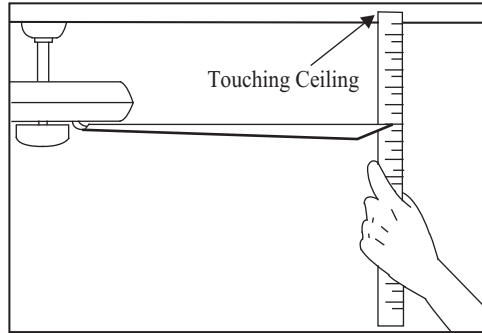

Figure 15
2. Most fan wobble problems are caused when blade levels are unequal. Check this level by selecting a point on the ceiling above the tip of one of the blades. Measure from a point on the center of each blade to the point on the ceiling. Measure this distance as shown in Figure 15. Rotate the fan until the next blade is positioned for measurement. Repeat for each blade. Measurements deviation should be within  $1/8''$ . Run the fan for 10 Minutes.